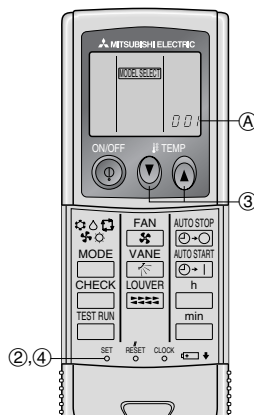

Fig. 6-6
(1) Attach the remote controller holder to the desired location using two tapping screws.
(2) Place the lower end of the controller into the holder.
- (A) Remote controller
- (B) Wall
- (C) Display panel
- (D) Receiver
3) Setting (Fig. 6-6)
- ① Insert batteries.
- ② Press the SET button with something sharp at the end.